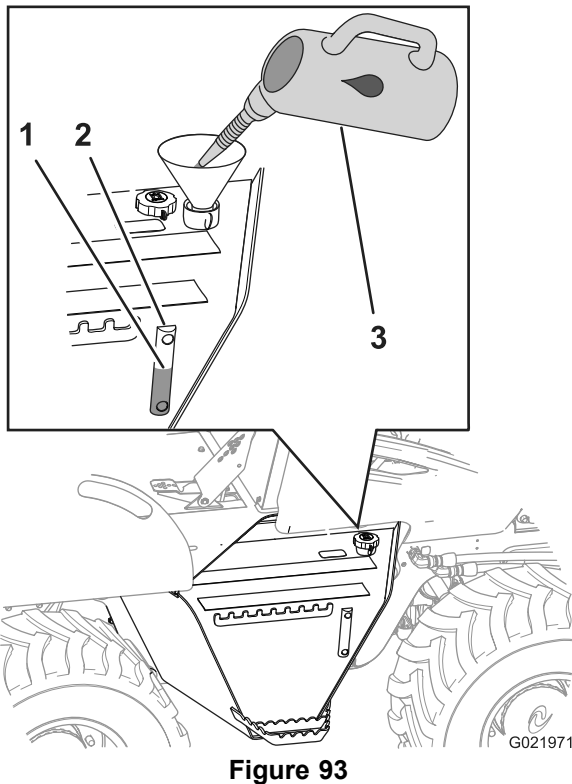

Figure 93
- Fill the hydraulic-fluid reservoir with the specified hydraulic fluid until the fluid level is at the midpoint of the sight gauge (Figure 93).
- Install the fill cap/breather (Figure 93).